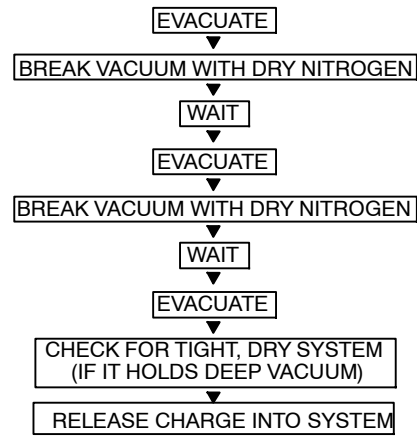

Fig. 21 Triple Evacuation Method
The triple evacuation method should only be used when vacuum pump is only capable of pumping down to 28 in. of mercury vacuum and system does not contain any liquid water. Refer to Fig. 21 and proceed as follows:
5. Repeat this procedure as indicated in Fig. 21. System will then be free of any contaminants and water vapor.